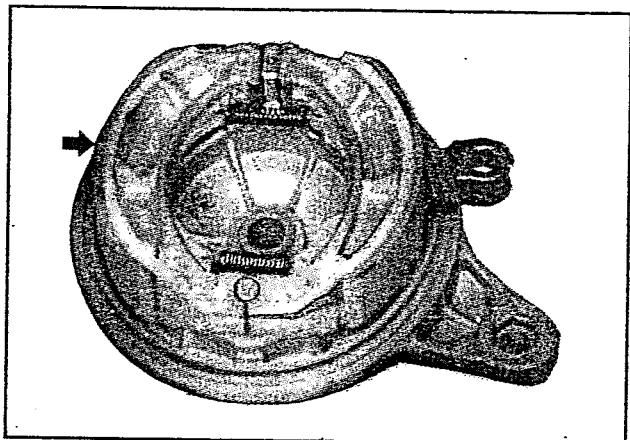

Fig 6.60
- Remove the brake shoes (fig 6.60)